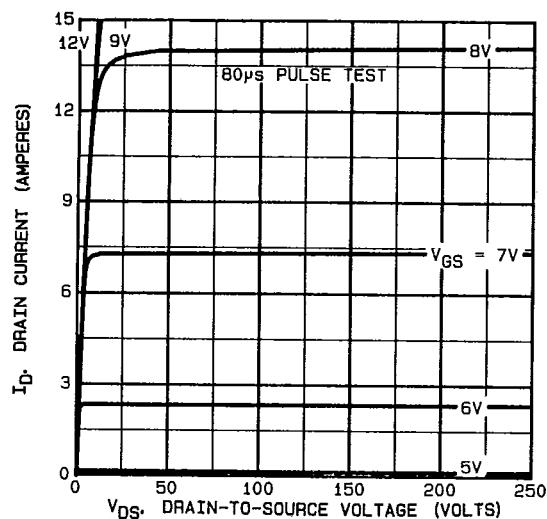

Fig. 13 — Typical Output Characteristics
- ① See Figures 13 through 29 for pre-radiation curves. ⑥ Pulse width ≤ 300 μs; Duty Cycle ≤ 2%